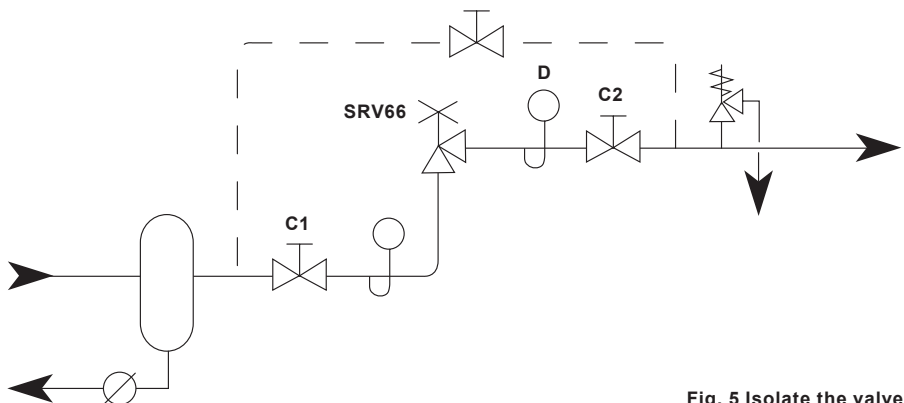

Fig. 5 Isolate the valve
- Isolate the valve, first closing the upstream isolating valve (**C1**) and then the downstream isolating valve (**C2**). Check that the pressure is zero (**D**) and allow the valve to cool (see Figure 5).